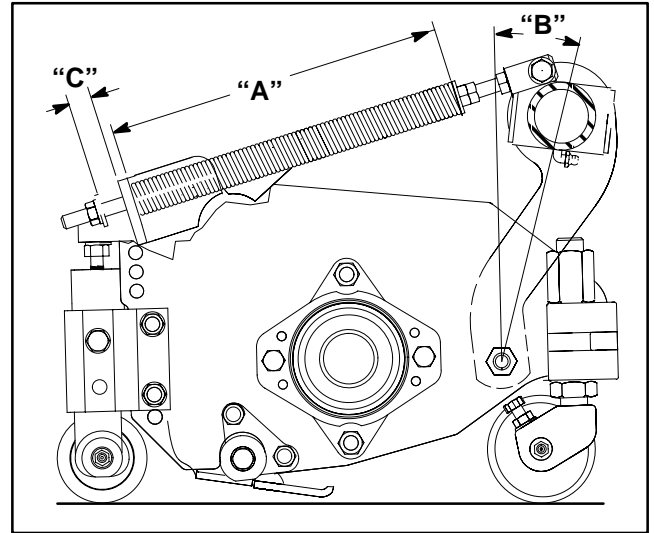

Figure 30
The Turf Compensation Spring (Fig. 30), connecting carrier frame to cutting unit, controls the amount of fore-aft rotation available, as well as the amount of ground clearance in transport and turn around.
1. Tighten lock nut on rear of spring rod until the gap (C) between rear of spring bracket and front of washer is 1" (26 mm) (Fig. 30).
2. Tighten hex nuts on front end of spring rod until the compressed length (A) of spring is 8" (203 mm) (Fig. 30).
NOTE: When cutting rough or undulating turf, increase compressed length (A) of spring to 8-1/2" (216 mm) and gap (C) between rear of spring bracket and front of washer to 1-1/2" (39 mm) (Fig. 30).